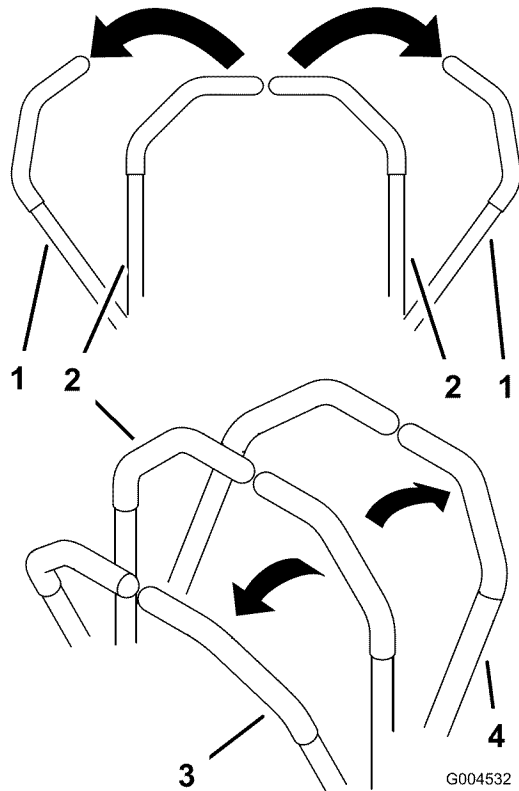

Figure 13
2. To go forward, slowly push the motion control levers forward (Figure 13).
To turn, release pressure on the motion control lever toward the direction you want to turn (Figure 13).
2. To go backward, slowly pull the motion control levers rearward (Figure 13).
To go straight, apply equal pressure to both motion control levers (Figure 13).
To turn, release the pressure on the motion control lever toward the direction you want to turn (Figure 13).